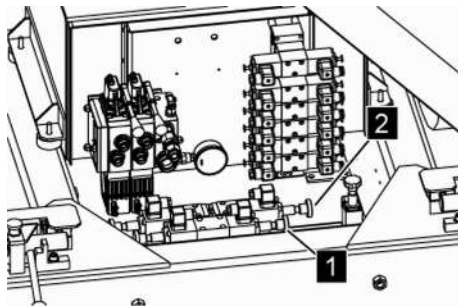

Fig. 138: Shuttle valves
4. ➔ For outrigger operation, lock the shuttle valves (Fig. 138/1 and 2).